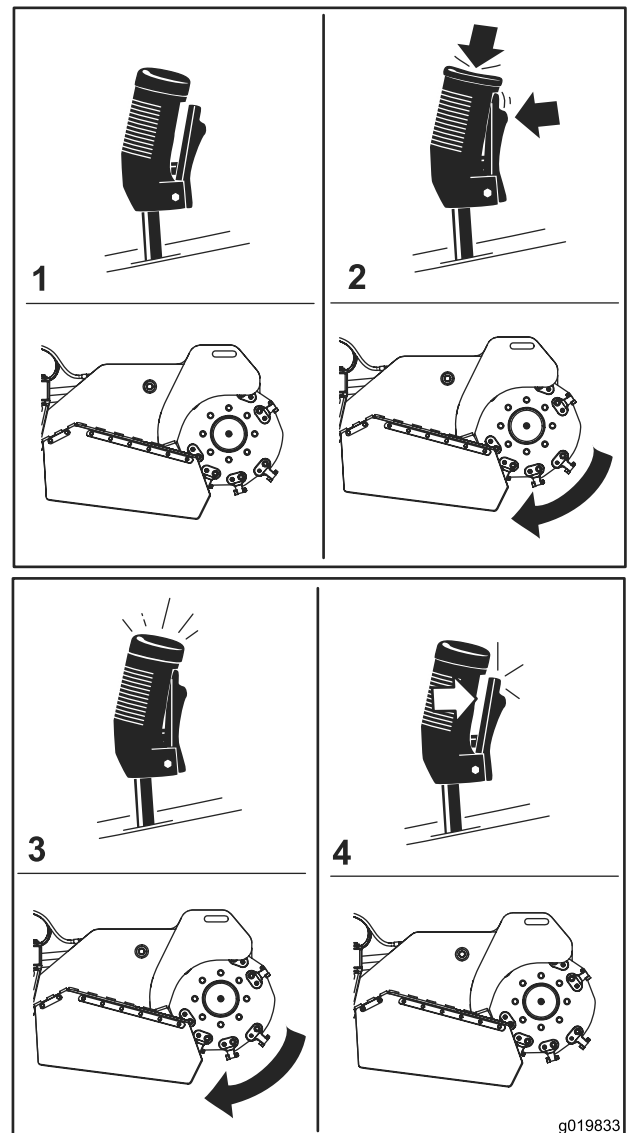

Figure 12
- To start the grinder (Figure 12), squeeze the trigger and then press the red button on the top of the lever. Once the grinder has started, you can release the red button.
- To stop the grinder (Figure 12), release the trigger for more than a half second.